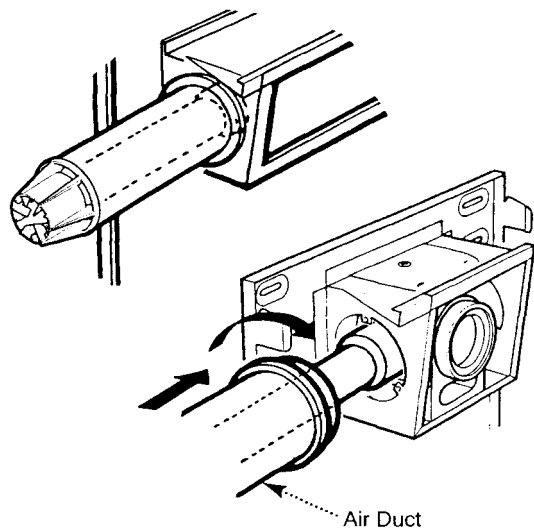

Fig. 50
5. Fit the air duct over the flue duct and draw towards the air box on the back plate. Engage the bayonet slots of the air duct over the location lugs of the back plate opening and press and turn clockwise to secure the air duct to the air box (Fig. 50).